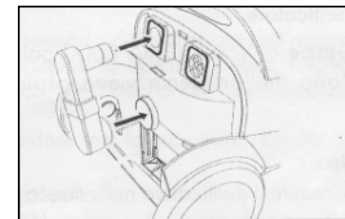

Fig. 14
- Connect the blower (M) into the intake hole; push it in as far as it will go until snug. Fig. 14
- Turn Main Switch (3) on and push the vacuum function button (10).
- Adjust the vacuum suction on the panel control with buttons (14) (15) (Increase/Decrease vacuum suction)